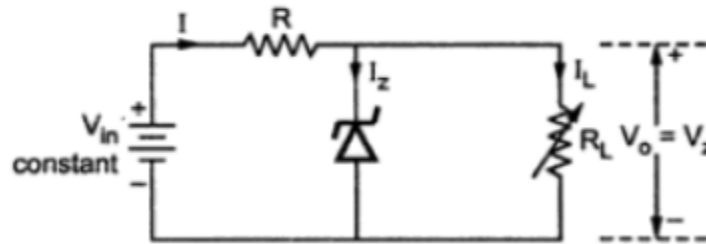

Fig. 5.13 Varying load condition
- The Fig. 5.13 shows a zener regulator under varying load condition and constant input voltage.